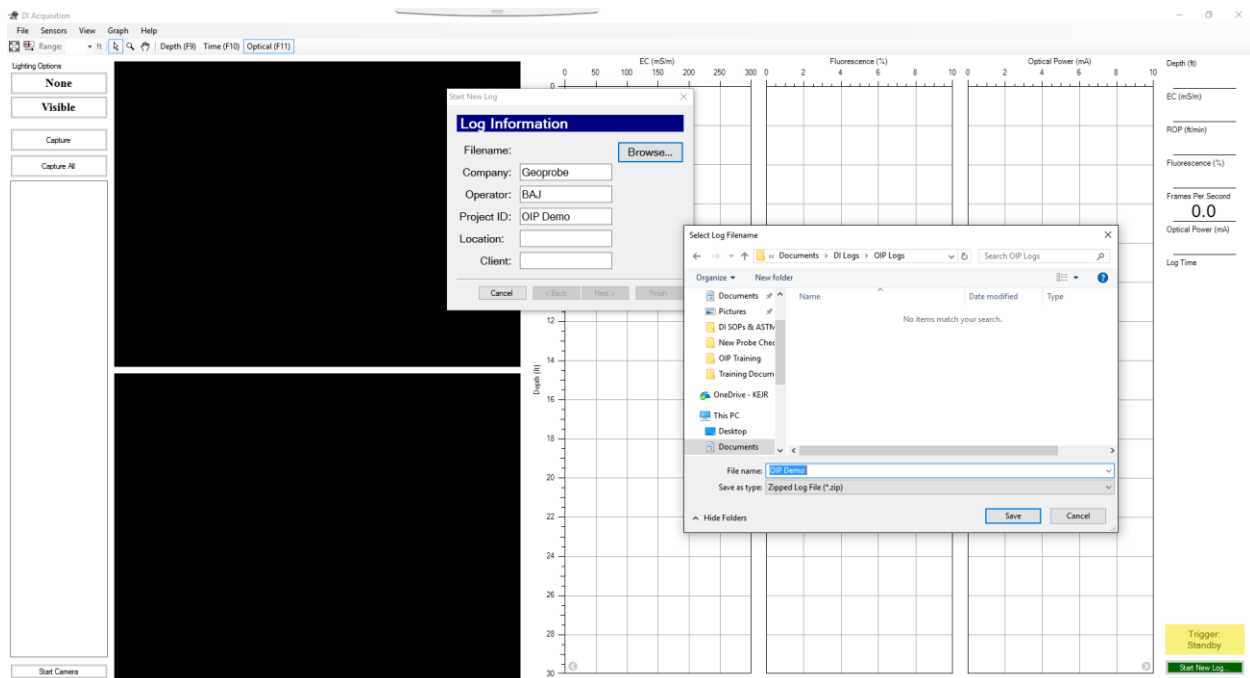

Figure 5.2 DI Acquisition Starting New Log
1. Select “Start New Log”. The software will request log information which will be stored in the log file. Select “Browse” to name the log file and select the storage location (Fig. 5.2).
2. Select “Next”. If the software has been run before it will show a list of previous settings including Stringpot length and rod length. If any of these have changed or you are unsure, select “No”. If they are all the same select “yes”. If you select “No” the software will have you select the proper settings after the quality assurance (QA) testing, if you selected “Yes” the selection of these settings will be bypassed.